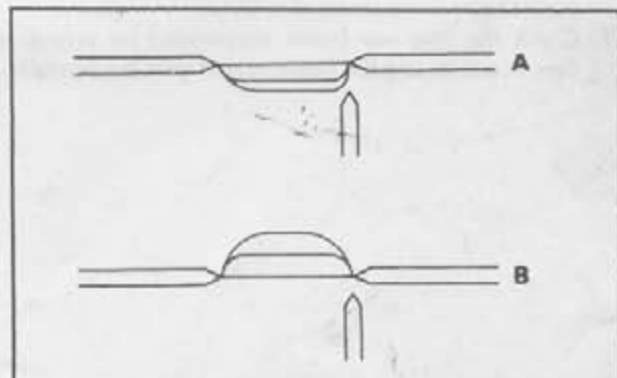

Fig. 5-7 Measuring distance of spark jumping across 3-point spark gap
- b. Connect a fully charged battery to the tester. Observing the spark jumping across a 3-point spark gap, turn the knob and measure the stable maximum jumping distance. If the spark appears in the form B in Fig. 5-7, connect the high-tension cable to the tester in the reverse direction and measure the jumping distance with the spark in the form A in the same figure.